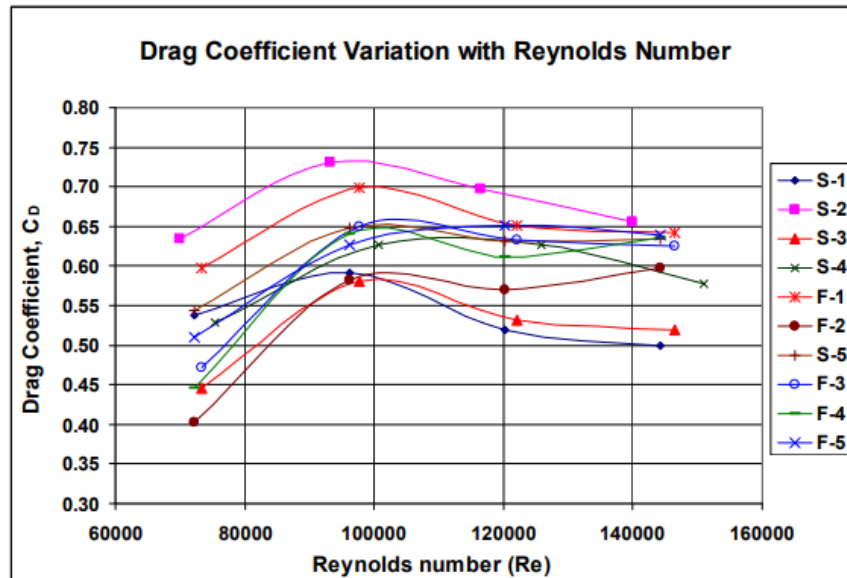

Fig.32: Drag coefficient variation with Reynolds number for all Shuttlecocks
1. Investigate the drag of natural feather shuttlecock (Fig. 32).